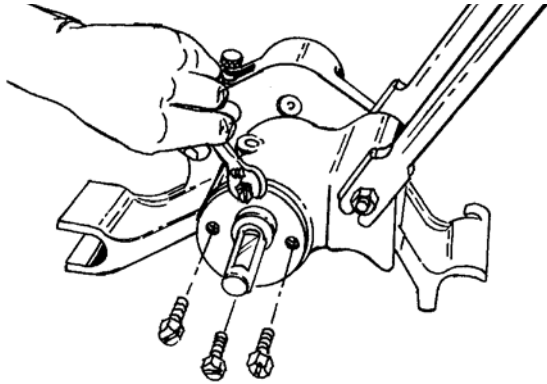

Figure 17 – Remove Retaining Plate
1. Remove 4 bolts that hold rear bearing retaining plate and remove plate. (Figure 17)